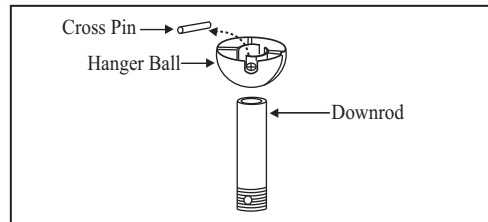

Figure 11
5. Remove hanger ball from downrod assembly by loosening set screw, removing the cross pin, and sliding ball off rod. (Figure 11)